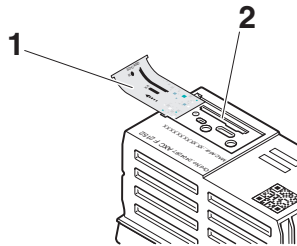
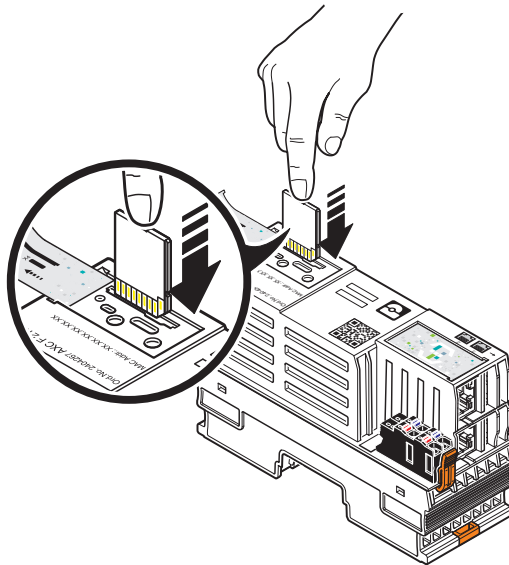

Figure 4-6 Removing the marking field
Figure 4-7 Inserting the SD card
- Remove the upper marking field of the controller (pos. 1 in Figure 4-6).
- Gently push the SD card into the SD card holder (pos. 2 in Figure 4-6) until it engages with a click in the SD card holder (see Figure 4-7, “Click”).